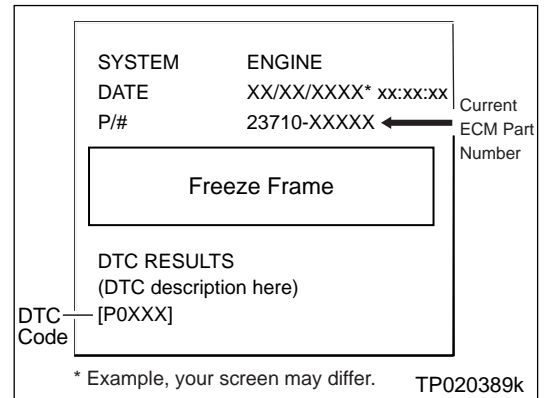

Figure 1
- Figure 1 is an example of the F.F. Data printout.
- ECM Part Number is on the printout from Step 1 (Figure 1) on page 3;